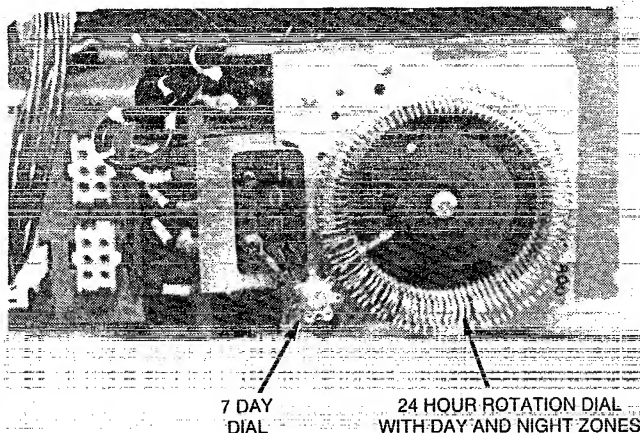

FIGURE 3-3. ELECTROMAGNETIC EXERCISER CLOCK
This clock initiates generator set starting and exercising at preset intervals. The large dial divides the 24-hour day into 15-minute intervals. A smaller spoked dial divides the week into one-day segments. See Figure 3-3.
1. On the 24-hour large dial, tilt tabs inward opposite the time of day generator set is to run. Each tab is a 15-minute increment; so for 30-minutes run time, tilt two adjacent tabs. See Figure 3-3.